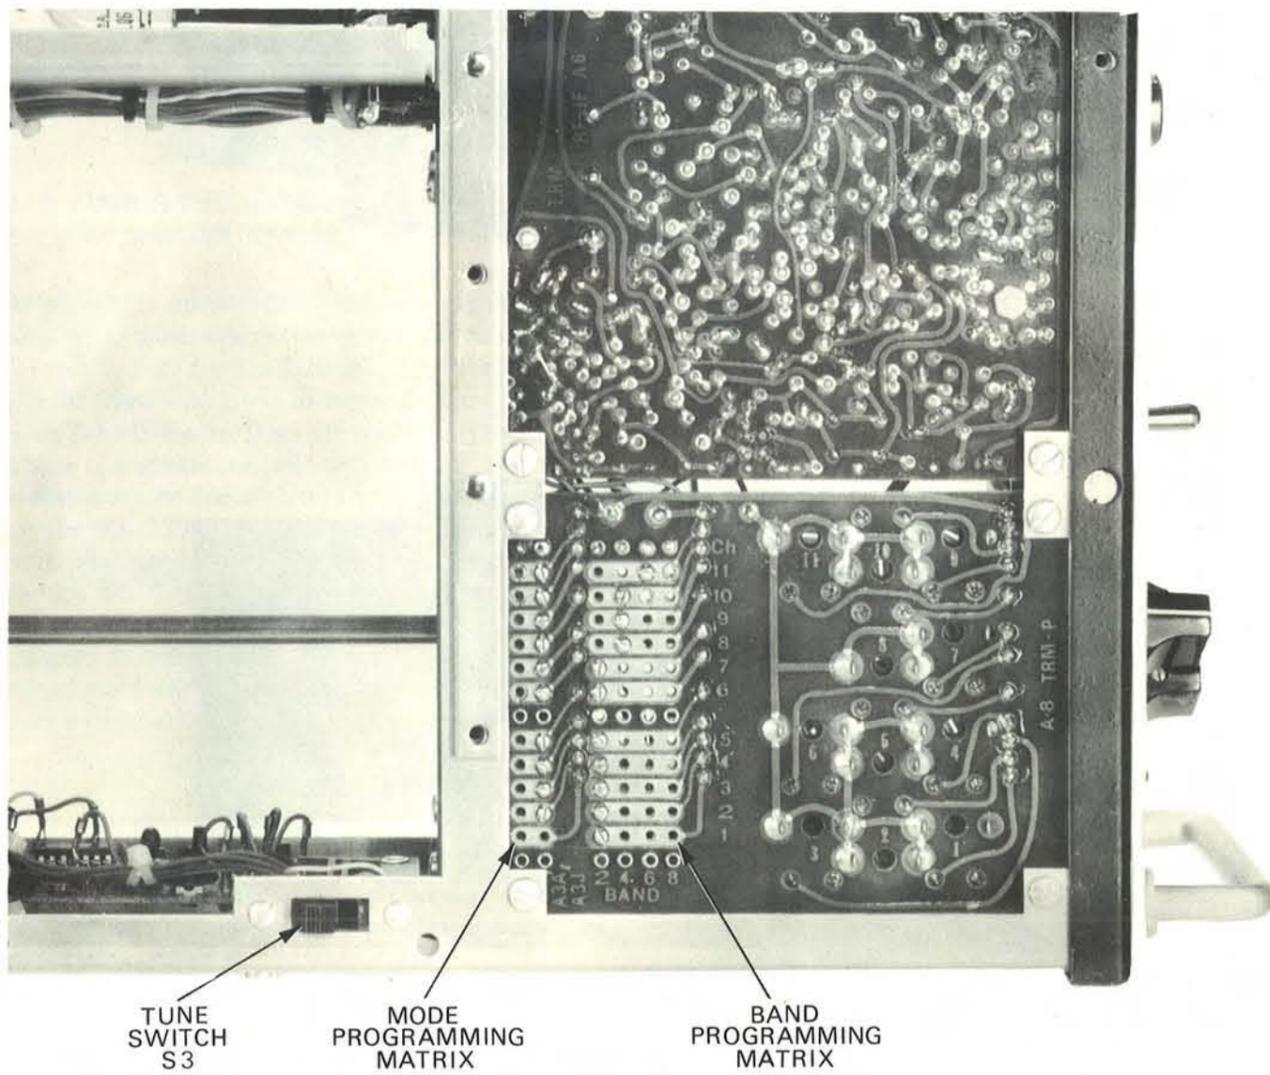

Figure 2-2. Program Board (A8)
- Locate the programming matrix PC board on the bottom of the chassis. Refer to figure 2-2.